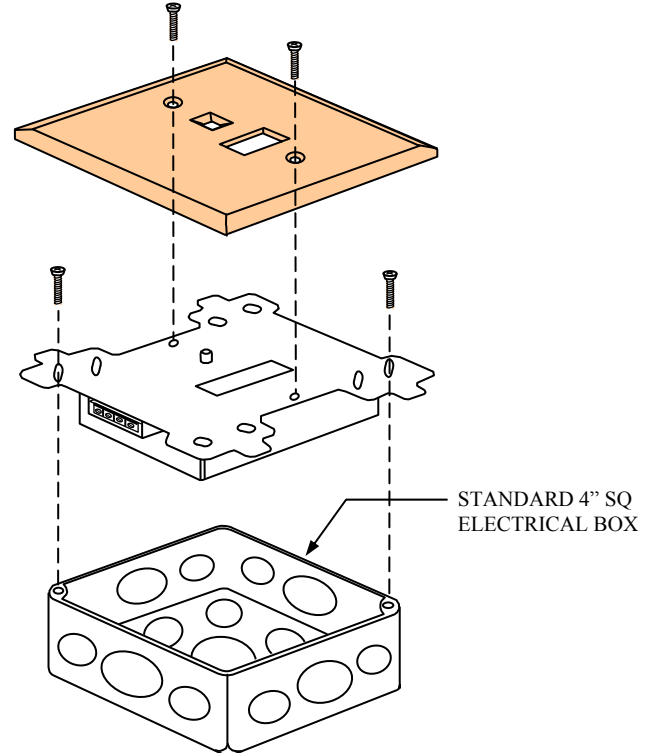

FIGURE 3
The CLIM Current Loop Input Module is mounted as shown in Figure 3 on page 2 of this instruction.
- 2) Secure the module to a U.L. listed electrical box (supplied by installer) as shown in Figure 3.